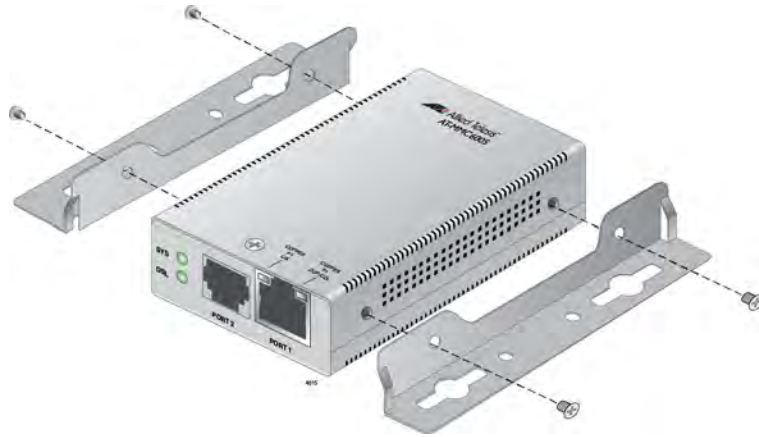

Figure 21. Attaching the Brackets to the Media Converter
4. Orient the brackets against the sides of the unit, as shown in Figure 21, and secure them to the unit with the four of the brackets screws included.